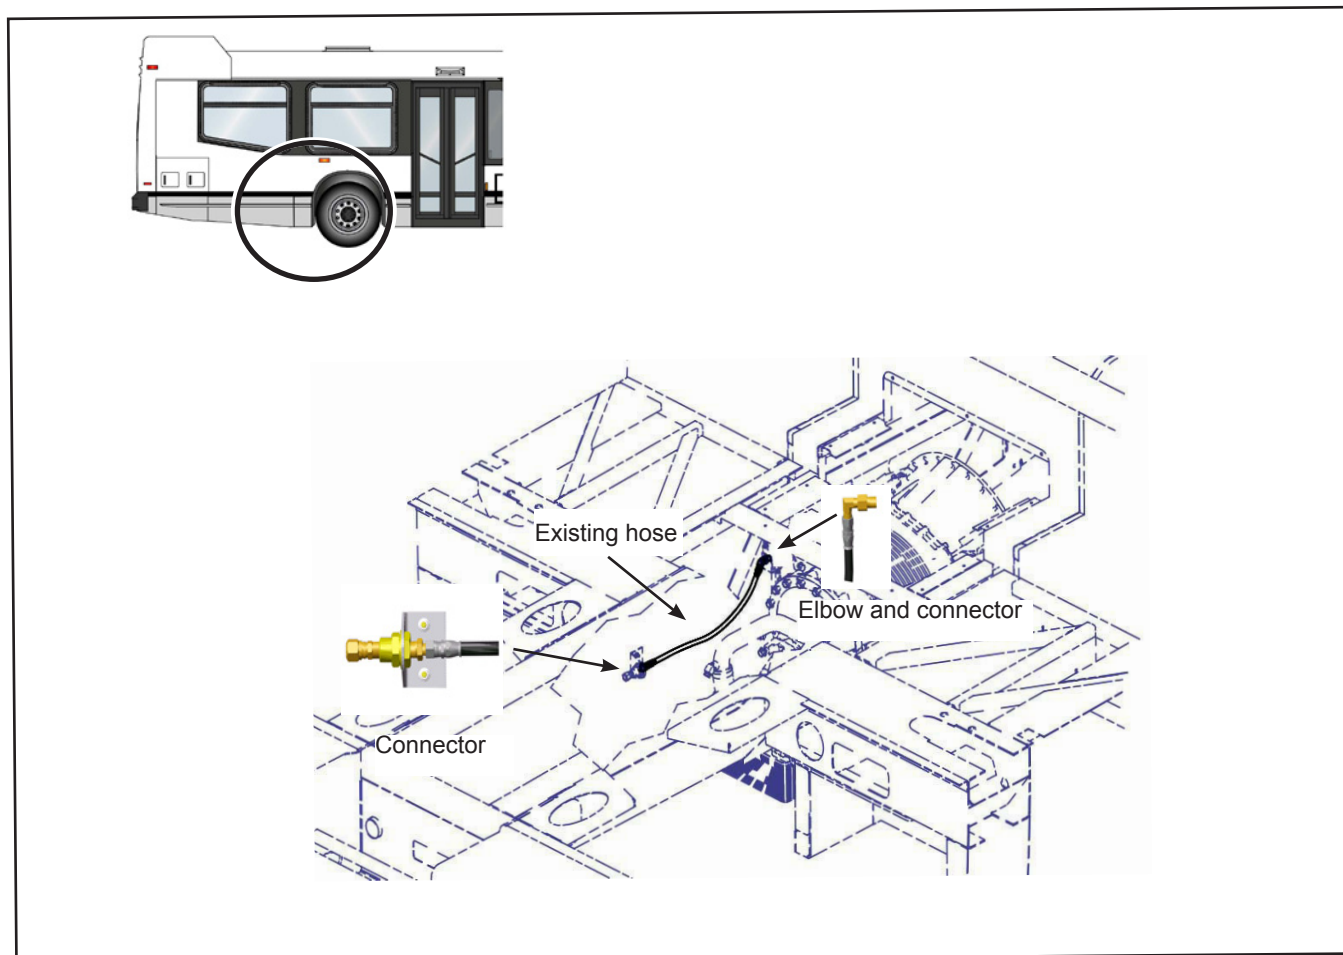

Figure 1 - Existing Retarder Air Line Assembly Location
1.1. Locate the retarder air line assembly. See Figure 1.